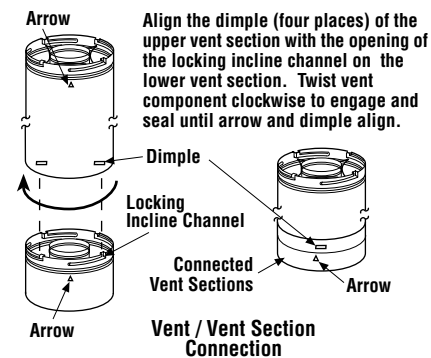

Figure 19
C. Attach vent components to each other - Other vent sections may be added to the previously installed section in accordance with the requirements of the vertical vent figures and tables. To add another vent component to a length of vent run, align the dimpled end over the inclined channel end of the previously installed section, adjusting the radial alignment until the four locking dimples are aligned with the inlets of the four incline channels of the previous section. Push the vent component against the previous section until it fully engages, then twist the component clockwise running the dimples down and along the incline channels until they seat at the end of the channels. **This seating position is indicated by the alignment of the arrow and dimple as shown in Figure 19.**